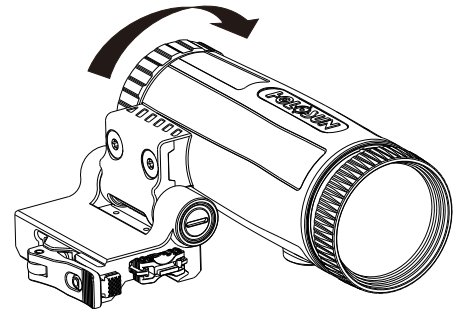

Figure 3
2. The magnifier can be flipped to the side 90 degrees (as shown in Figure 3).
- 1) Rotate the magnifier 90 degrees, as shown in Figure 3.